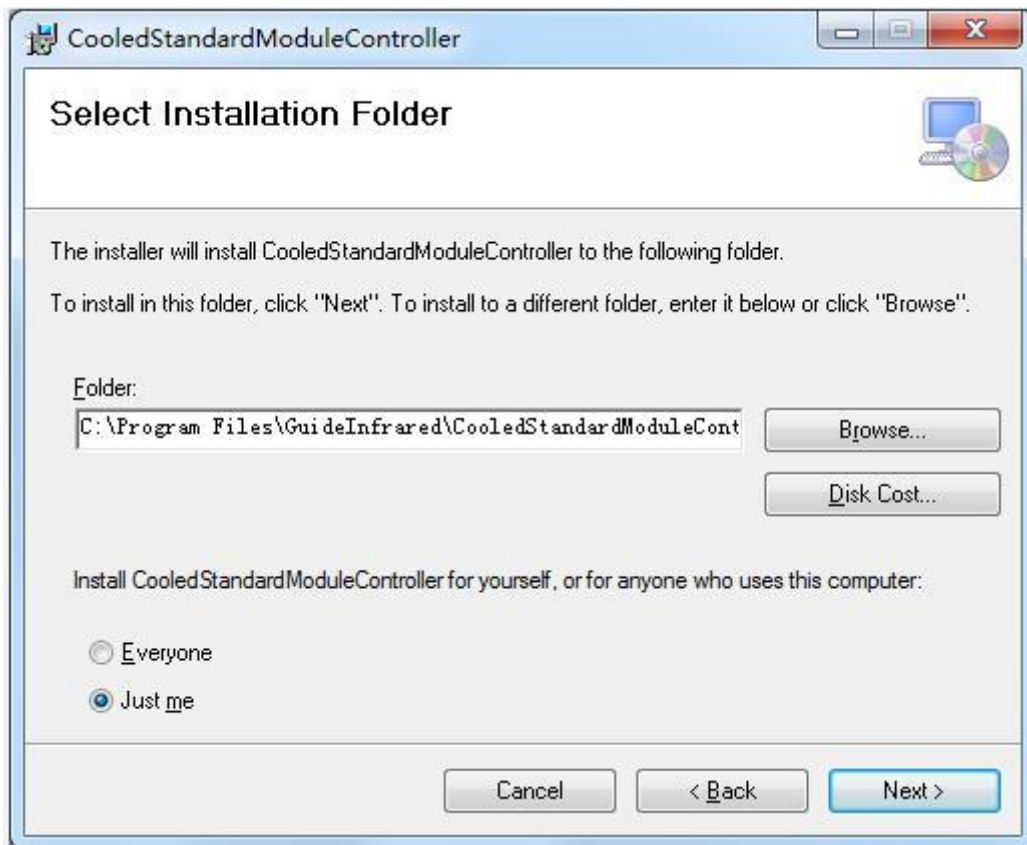

Figure 3-2 Software installation screen 2
- 2) Click the button "Next" to pop up a window for selection of installation path and the installation object. After selecting the file installation path and object, click the button "Next" to proceed to the next step, as shown in Figure 3-2.